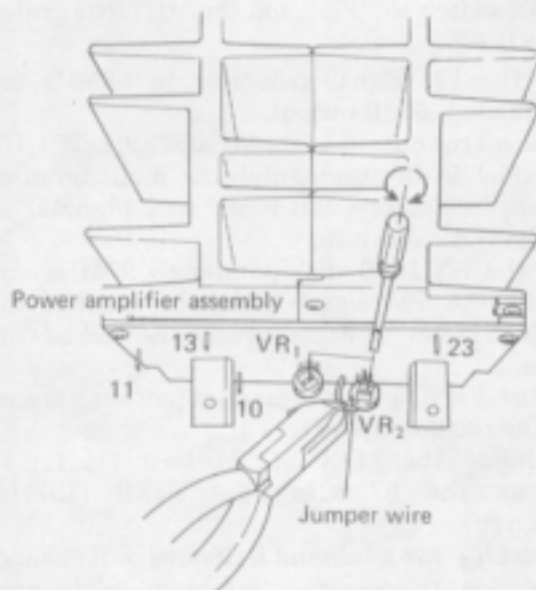

Fig. 14 Power amplifier adjustment
3. When 0V cannot be obtained by performing the adjustment of item 2 above, cut the jumper wire shown in Fig. 14 and adjust to 0V with VR₂.
4. Thr R-ch also uses the power amplifier ass'y (AWH-071). Check and adjust this channel in accordance with items 1 - 3 above.